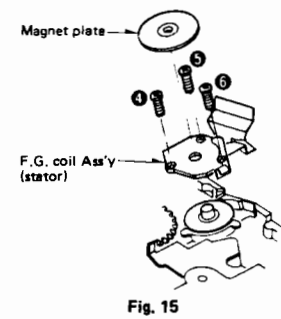

Fig. 15
7. Remove the 3 screws (④ ~ ⑥) and remove the F.G. coil ass'y (stator) from the mechanism base (Fig. 15).